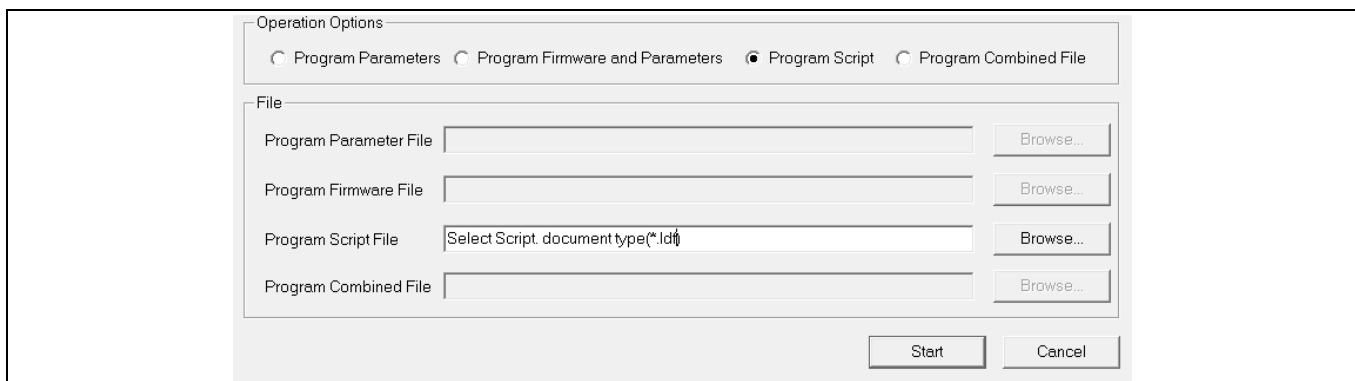

Figure 15 Program the script
- 6. If the script file needs to be programmed in the internal Flash memory of iMOTION™ Control IC after programmed firmware and parameters file, still click on system page, click “Tools” > “Programmer” and select “Program Script,” shown as in Figure 15 below. Regarding the Script file, browse and select the ‘xxx_Script.ldf’ file prepared in Section 2.1.2. After programming script, please click “File” > “Import Register Map” to import script (.map) file into MCEDesigner file (.irc), and save this (.irc) file, otherwise a map error will appear.